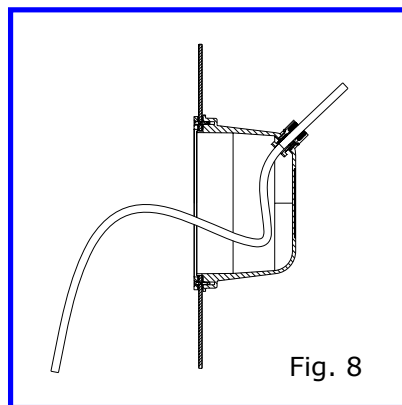

Fig. 8
- Insert the cable through compression seal (Fig. 8)